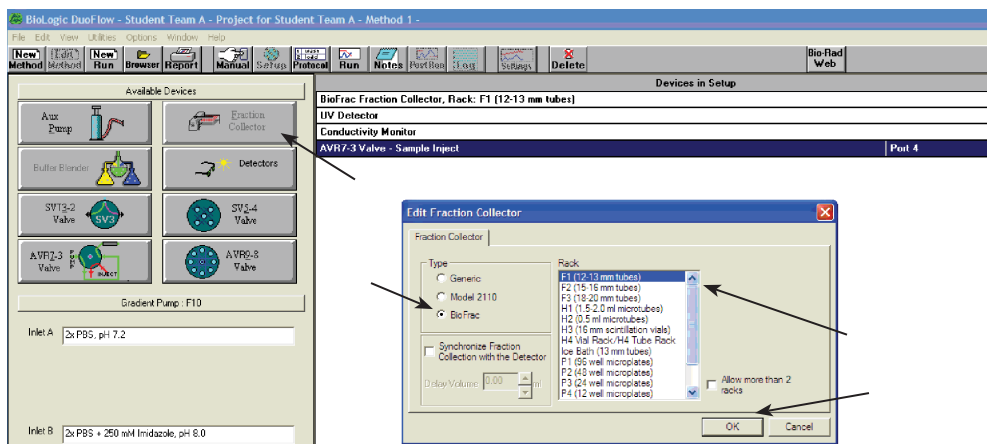

Figure 8.20. Selecting the fraction collector in the device set up window.
1. Click on the Fraction Collector button in the Available Devices box (Figure 8.20). A dialog box will appear asking you to choose the type of collector (e.g., a generic collector, a Model 2110, or a BioFrac fraction collector).